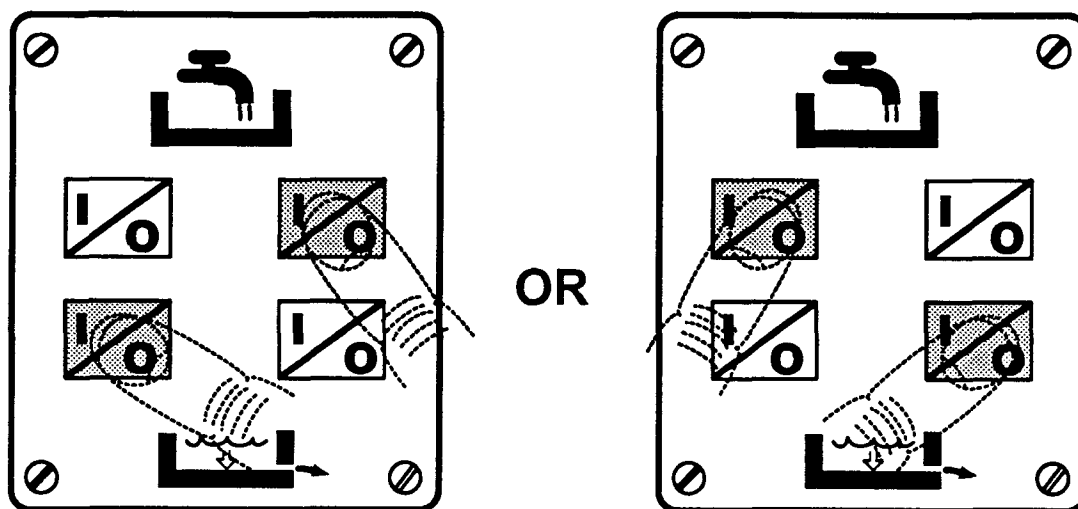

figure 7
3. Press two switches on the SERVICE KEYBOARD at the same time and power on the the AUTOMIXER II Plus. To make sure, that the service mode is entered, press and hold the switches for approx. to two seconds (see figure 7).